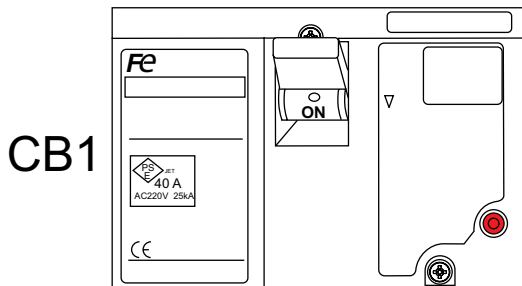

Figure 67. Main Circuit Breaker ON (GFCI Test)
4. Place the main circuit breaker, CB1 (Figure 67) in the **ON** position within 5 seconds after pressing the **RESET** button on the GFCI sensing module.